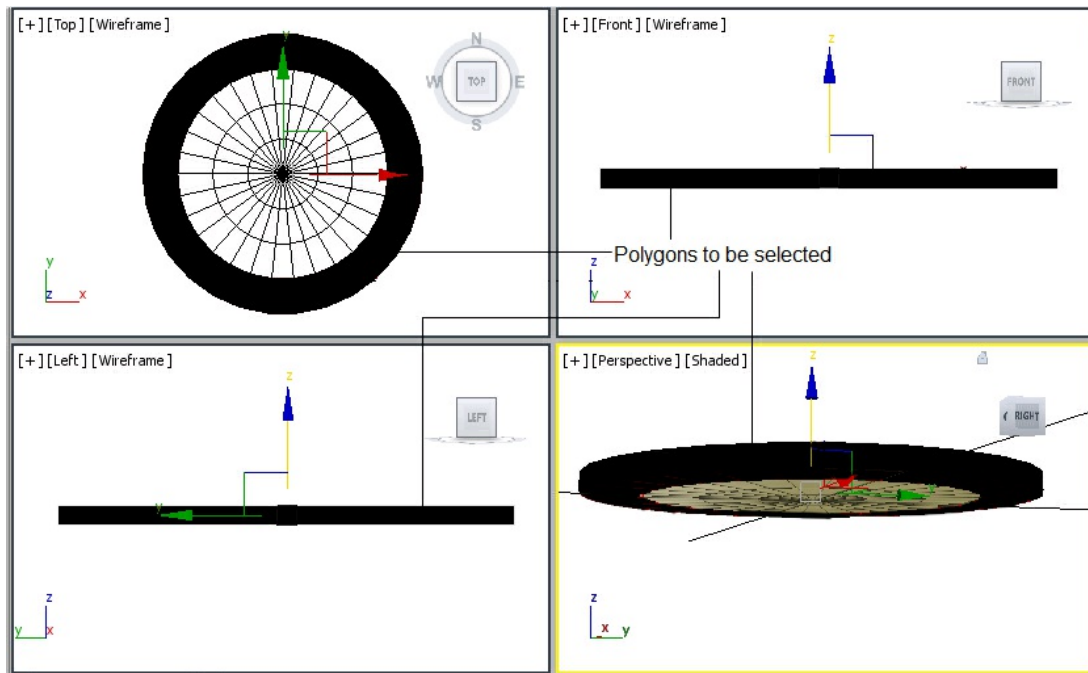

Figure 10-64 Selected polygons of sieve
4. Convert *sieve* into editable poly. Next, select the **Polygon** sub-object level and select outer polygons from all the viewports, as shown in Figure 10-64.